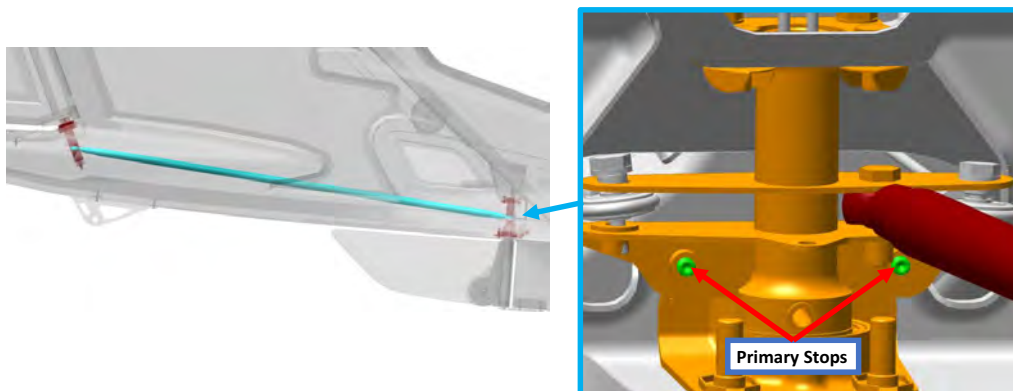

FIGURE 9-64
23. Adjust primary stops to ensure rudder maximum travel limits are set as specified. See Figure 9-64.